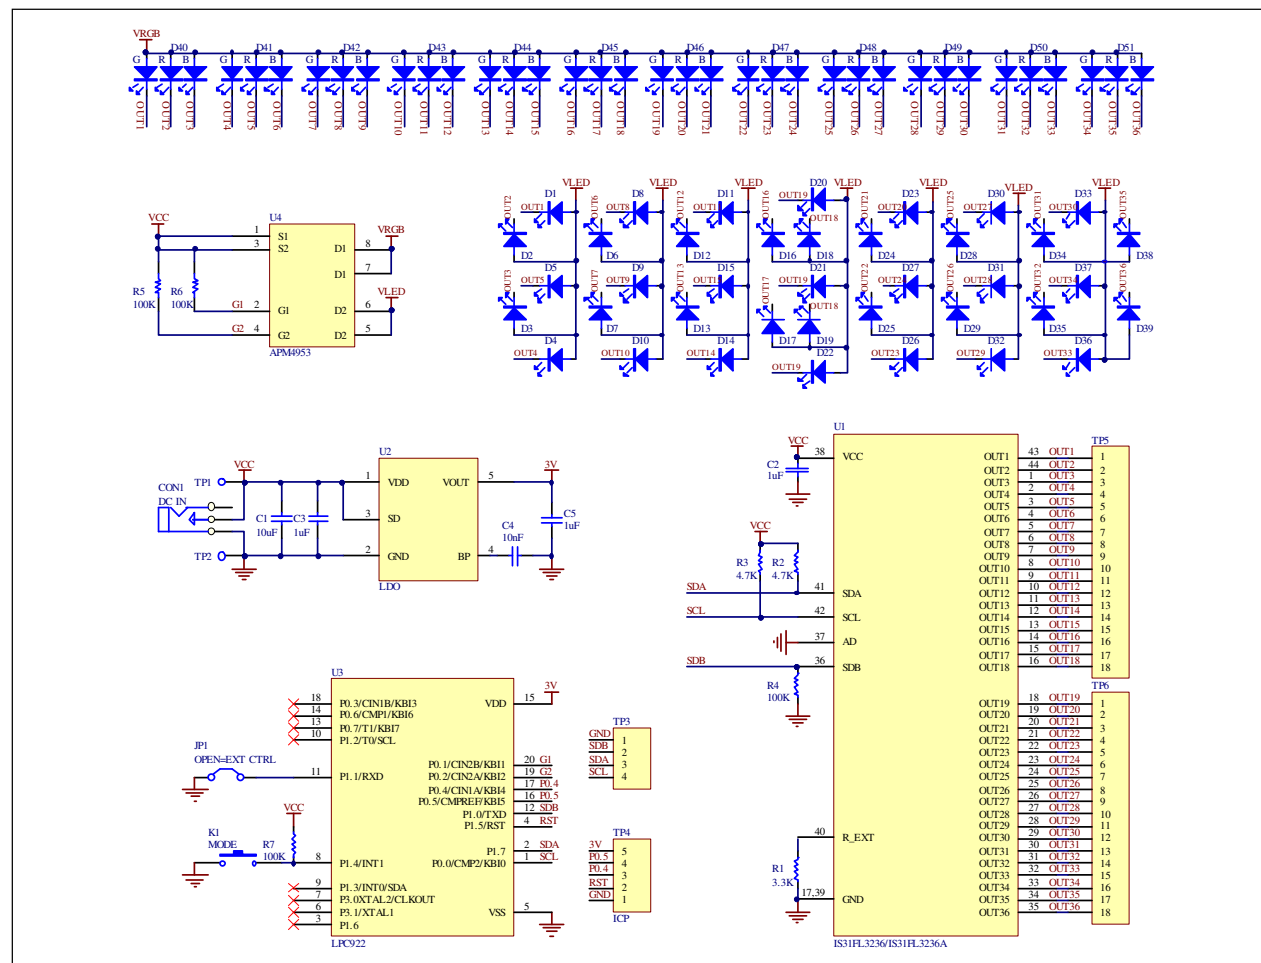

Figure 2: IS31FL3236/IS31FL3236A Application Schematic
*Table 2: Bill of Materials, refer to Figure 2 above.*